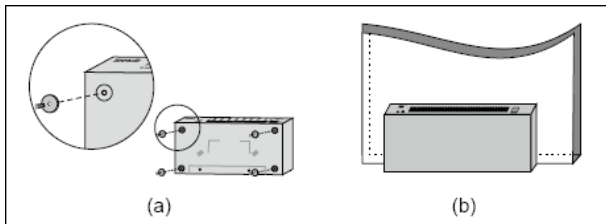

Figure 2-2 Magnet Installation
Step 2: Use screws to secure the magnets to the switch's housing, shown as Figure 2-2 (a).
Step 3: Press the switch (installed with magnets) in a proper way on a stable surface you select, shown as Figure 2-2 (b).